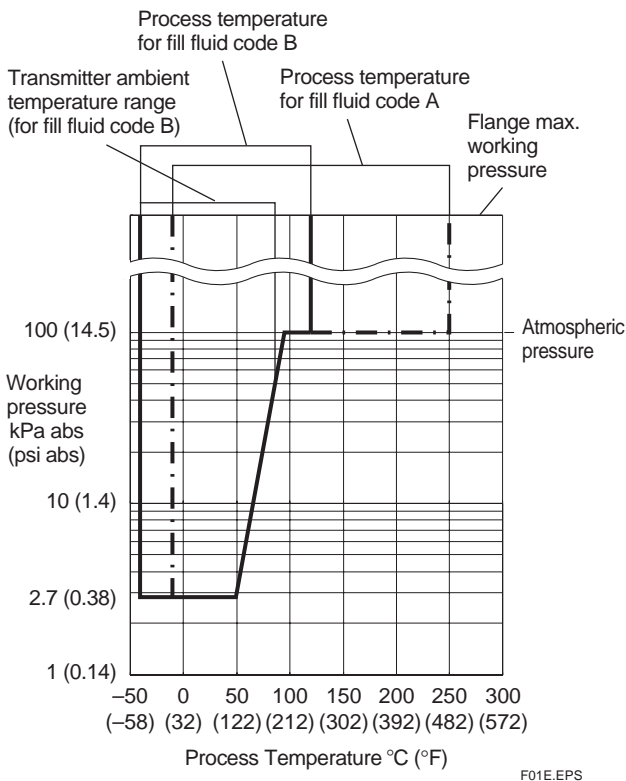

Figure 1. Working Pressure and Process Temperature (Fill fluid: silicone oil for general and high temperature use)
For atmospheric pressure or below, see figure 1.
*1: See figure 1 ‘Working Pressure and Process Temperature.’